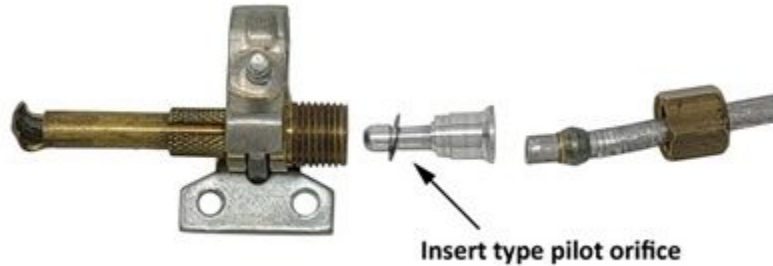

Figure 7 Insert type pilot orifice
- Figure 7 “Upshot mono-port burner” by Camosun College is licensed under a CC BY 4.0 licence.
The insert type of pilot orifice has no threaded seat or gas connection. It is an aluminum cone shaped insert that sits in a receptacle on the burner assembly (Figure 7). It gets held in place and sealed by the pilot tubing inlet fitting.